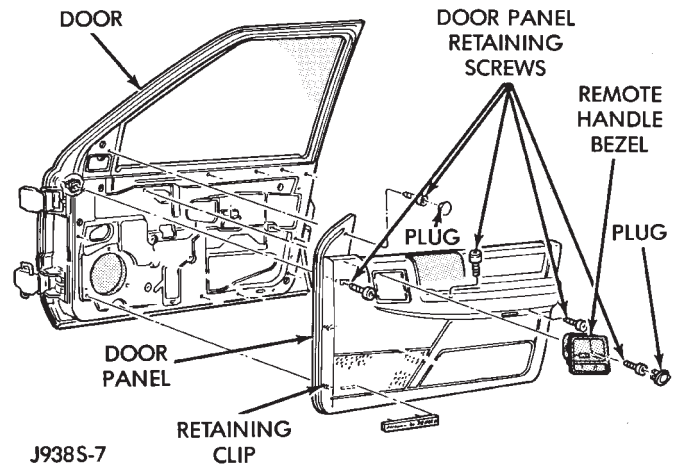
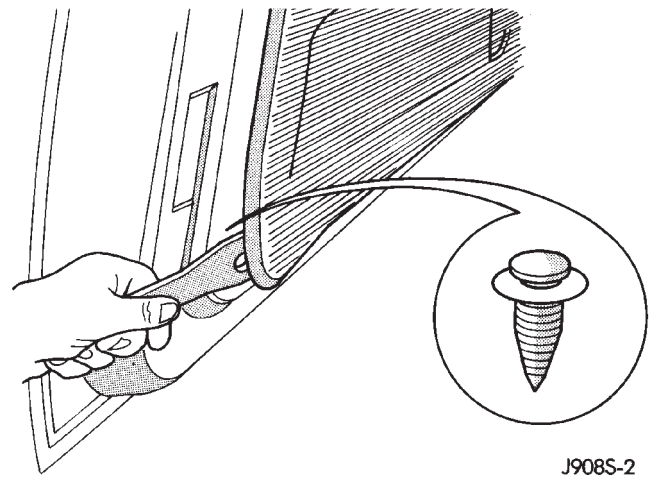

Fig. 13 Door Panel Removal
Fig. 14 Trim Panel Removal
- (1) Remove screw at top of trim panel near mirror (Fig. 13).
- (2) Remove screw from demister opening.
- (3) Remove screw and door handle cover.
- (4) Remove screw from under armrest.
- (5) Remove screw from bottom of hand hold in armrest.
- (6) Remove the trim panel with a wide flat blade tool (Fig. 14).